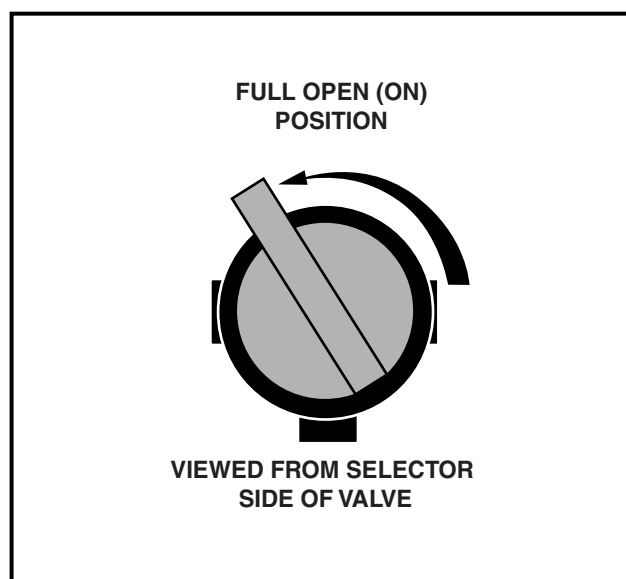
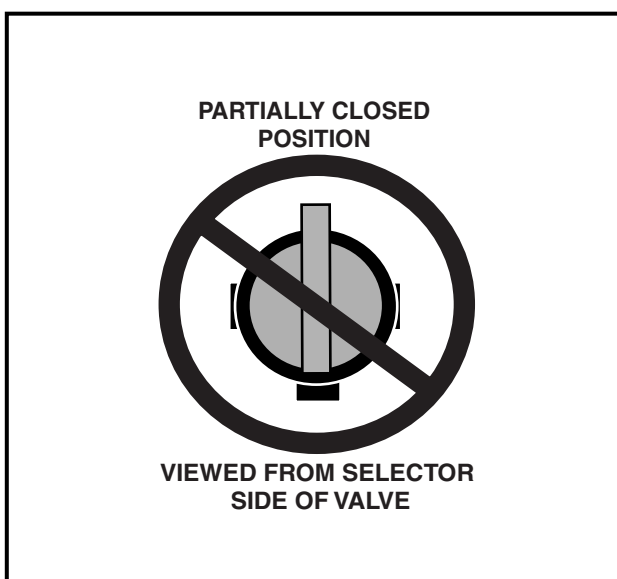

Figure 13 Fuel Shut-off Valve – Open Position
Figure 14 Incorrect Fuel Shut-off Valve Setting
3. Completely open the fuel shut-off valve (**Figure 13**). Make sure the valve is fully open. A partially closed fuel shut-off valve (**Figure 14**) combined with the use of the choke can result in a fouled spark plug and engine failure.